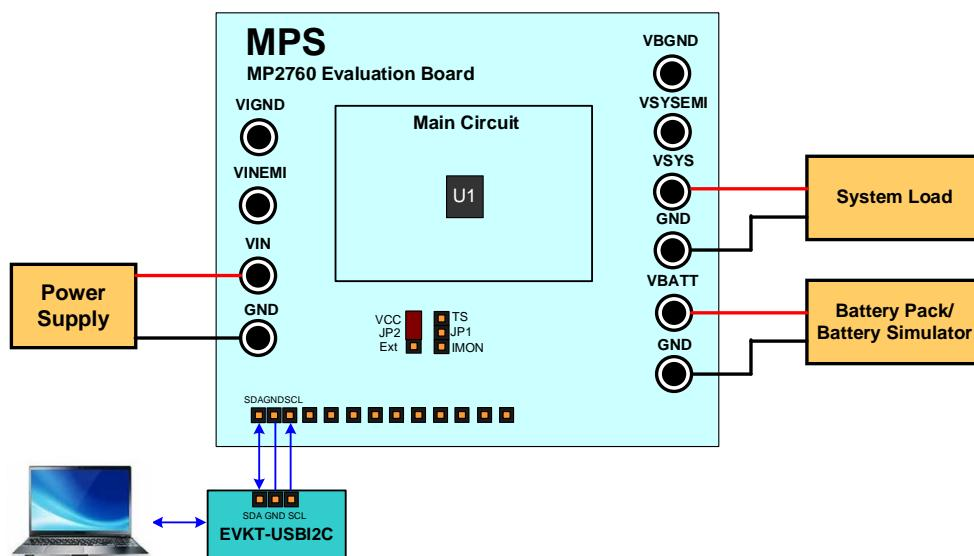

Figure 6: EVB to MPS I2C Communication Interface Wire Connection
2. Connect SCL, SDA, and GND (see Figure 6). If needed, refer to the MP2760 datasheet for further clarification.